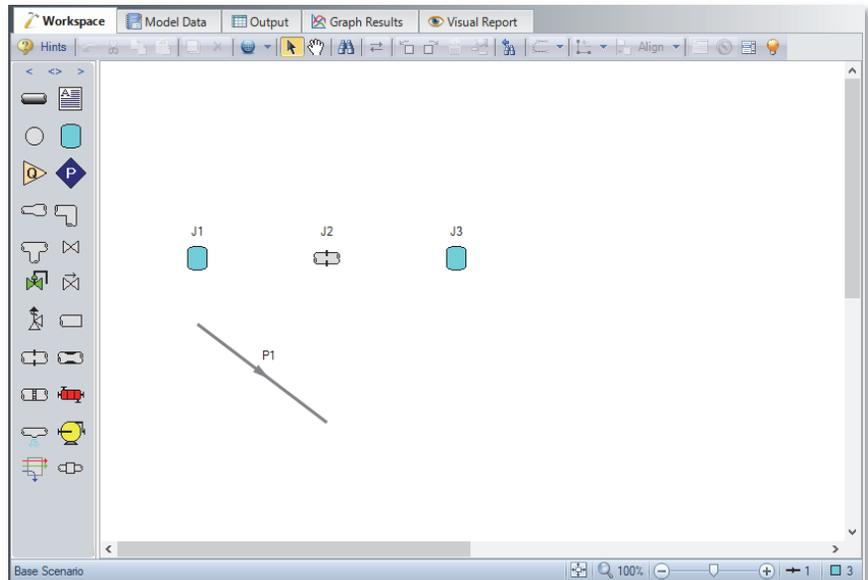

Figure 2.5c Walk through model with first pipe drawn
- **To create a pipe**, click the Pipe Drawing Tool icon on the Toolbox. The pointer will change to a crosshair when you move it over the Workspace. Draw a pipe below the junctions, similar to that shown in Figure 2.5c.